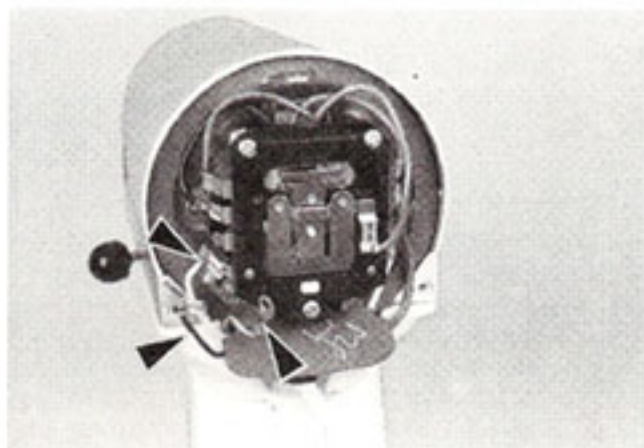

Fig. 9
- G. Remove the cord flag terminals from control board and ground wire from bearing bracket (Fig. 9).